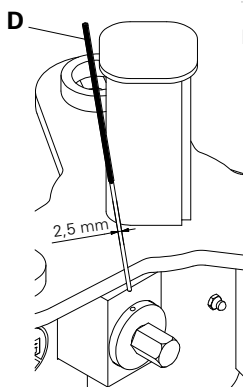

Fig. 17
4. Remove Shear Pin (1.3) with centre punch (D) (2.5 mm). (Fig. 17)